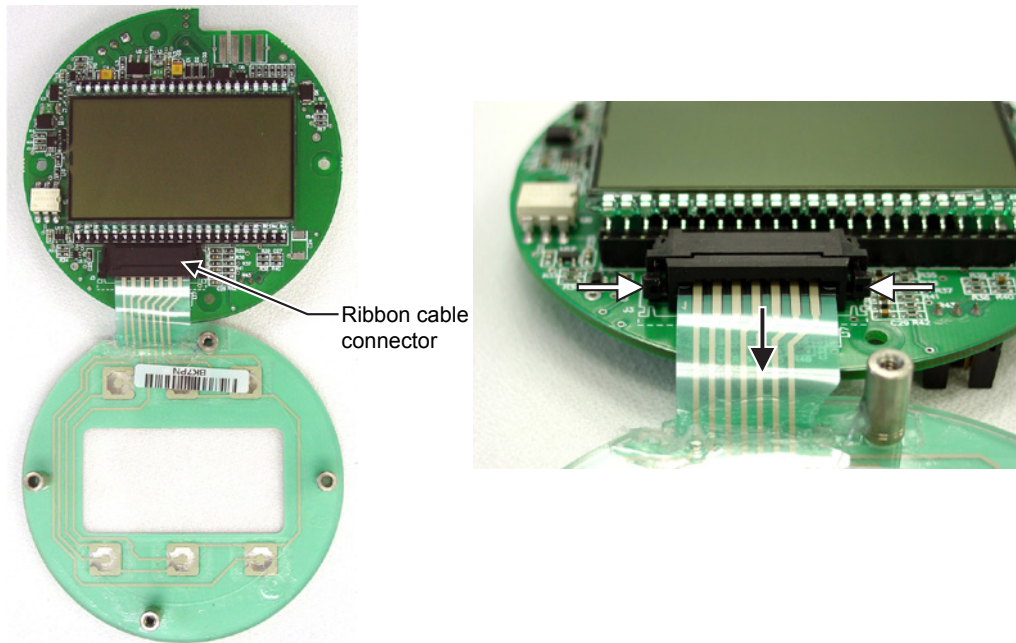

Figure C.14—To release the ribbon cable from the connector, press in on the side tabs of the J7 connector (white arrows) and gently pull forward (black arrow).
13. Remove the keypad ribbon cable from the J7 connector on the LCD side of the main board by pressing in on the sides of the black plastic clip and pulling gently on the clip. Do not pull on the ribbon cable; the cable will release freely when the clip opens (Figure C.14, page C-22).